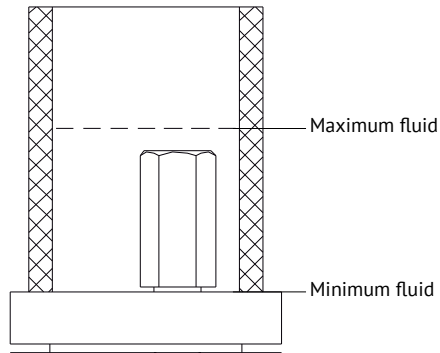

Fig. 3 Level of filling the bowl with working fluid
6.5 Fill the bowl with working fluid to the level not exceeding maximum (Fig. 3). Do not install the pressure release valve.
7.7 Slowly operating the manual pump, perform pumping. The amount of pressure generated via manual pumping depends on measurement range of the installed measuring instruments, but it shall not exceed 3 MPa. During pumping the level of working fluid in the bowl will lower. Keep the level of fluid in the bowl under control: it shall not fall below minimum. (Fig. 3)